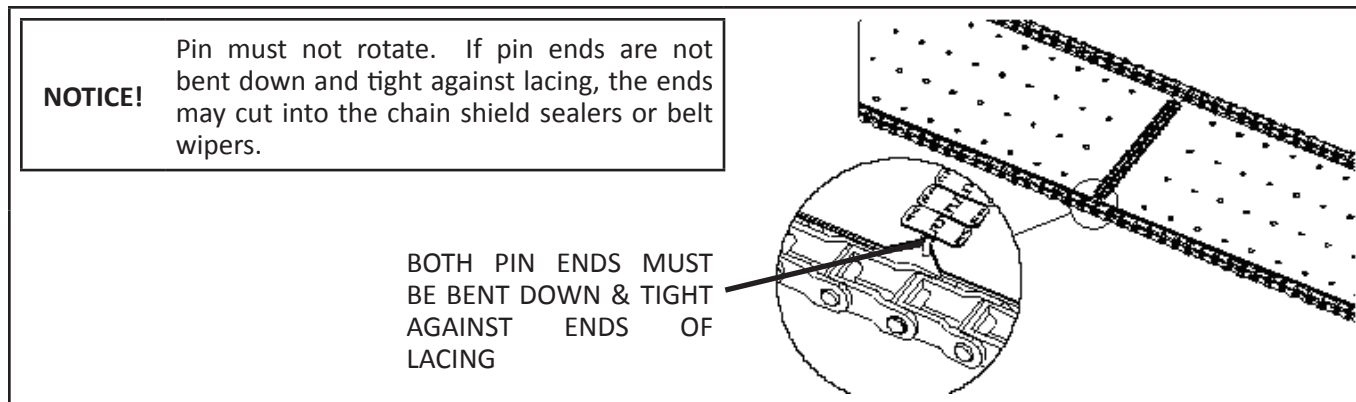

Figure 11 - Conveyor Belt Pin Installation
- Make sure belt connecting pin is positioned correctly as shown in Figure 11.